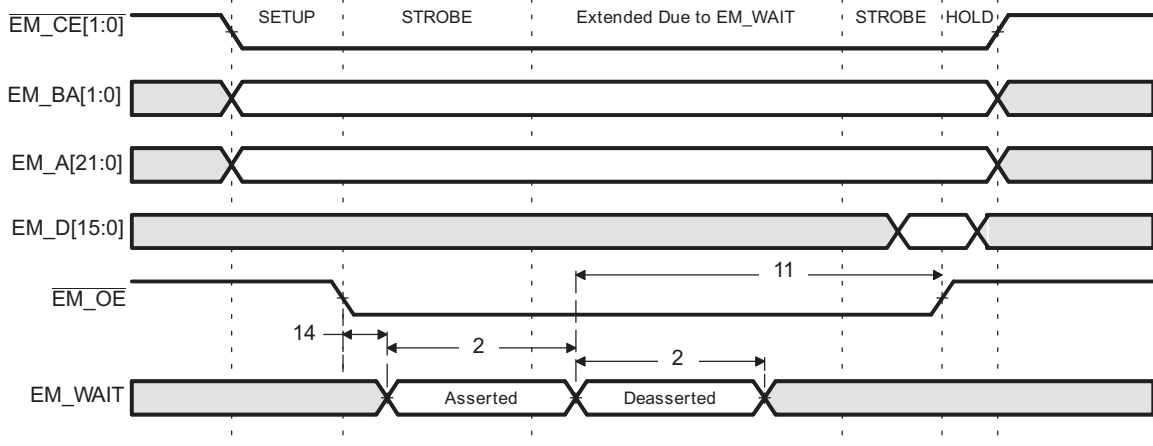
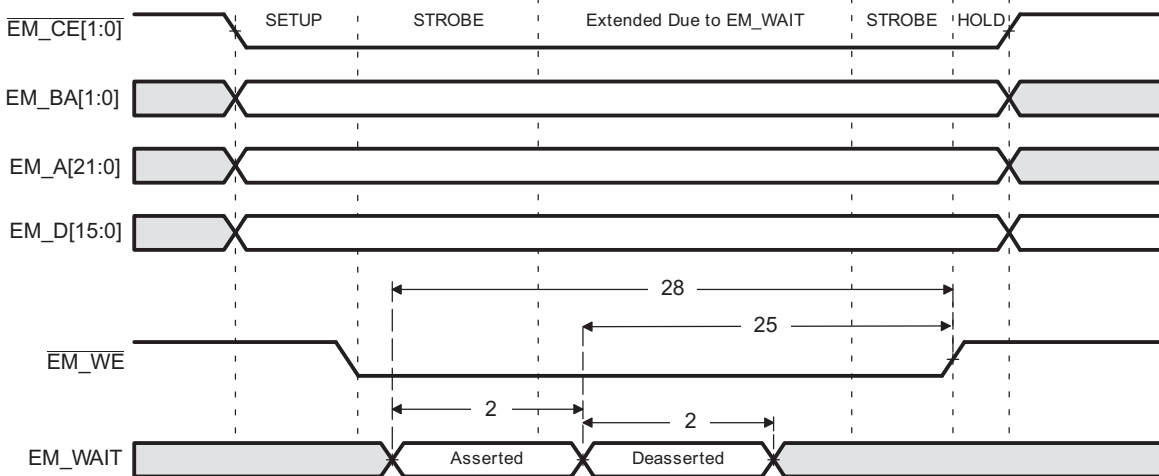

Figure 7-15. EM_WAIT Read Timing Requirements
Figure 7-16. EM_WAIT Write Timing Requirements
- (1) $E=2 \times \text{PLL1C SYSCCLK4 period in ns}$. See Section 4.3 for more information.
(2) Setup before end of STROBE phase (if no extended wait states are inserted) by which EM_WAIT must be asserted to add extended wait states. Figure 7-15 and Figure 7-16 describe EMIF transactions that include extended wait states inserted during the STROBE phase. However, cycles inserted as part of this extended wait period should not be counted; the 4E requirement is to the start of where the HOLD phase would begin if there were no extended wait cycles.